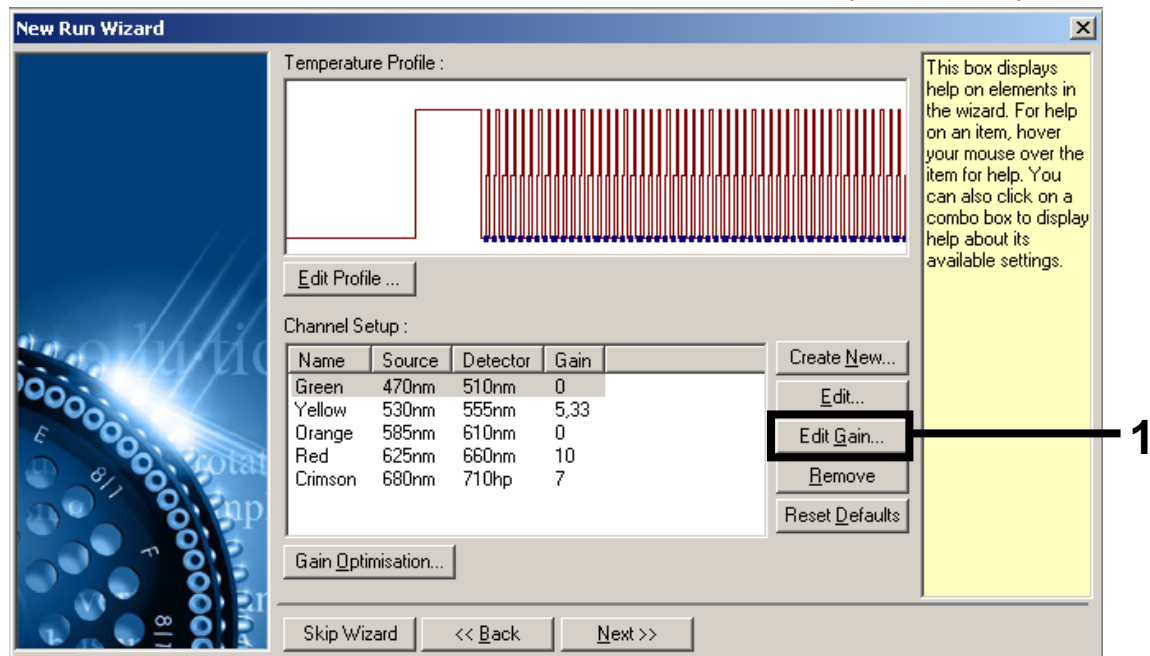

Figure 15. Editing the gain values manually.
14. Click “Edit Gain” to edit the gain values manually (Figure 15).